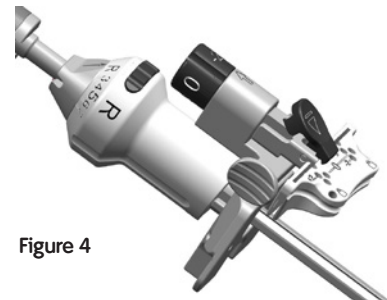

Figure 4
3. Attach the Distal Femoral Cutting Block onto the Bridge. Positioning the Block and the dial on the adjustable bridge at the primary (“0”) resection level will ensure the cut will equal the distal thickness of the femoral prosthesis (Figure 4).